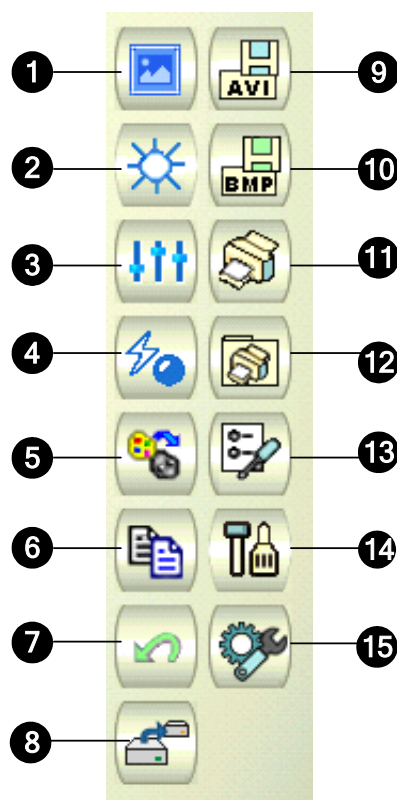

Figure 4-2 Function Panel
3. Click the **Save AVI File** button (No. 9, Figure 4-2). This window appears.